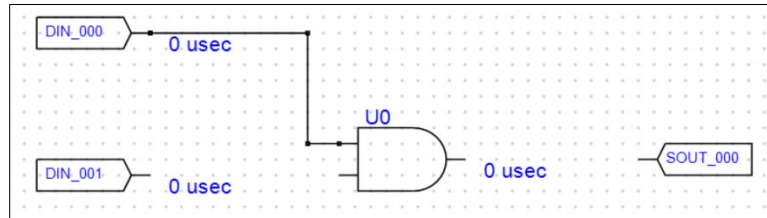

Figure 85 - All Segments Completed
- 5) Repeat steps 2 & 3 for new segments until a connection to the next pin is made (Figure 85 - All Segments Completed).